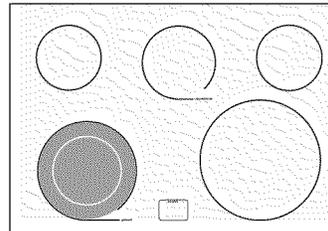
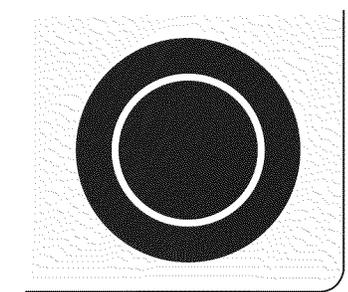

Figure 1 - Model A
Figure 5
The cooktop is equipped with 1 or 2 dual radiant surface elements located at the **left front** (Figures 1 & 2) and the **right front** (Figure 2) or the **right rear** (Figure 3) position. Symbols around the knob are used to indicate which coil of the dual radiant element will heat. The ● symbol indicates that only the inner coil will heat (Figure 4). The ◎ symbol indicates that both inner and outer coils will heat (Figure 5). You may switch from either coil setting at any time during cooking.
2. Push in and turn the control knob to the inner coil symbol for smaller cookware (Figure 4) or to inner and outer coil symbol for larger cookware (Figure 5). Turn the knob to adjust the setting if needed. Start most cooking operations on a higher setting and then turn to a lower setting to finish cooking. Each surface element provides a constant amount of heat at each setting. A glowing red surface heating area extending beyond the bottom edge of the cookware indicates the cookware is **too small** for the surface heating area.